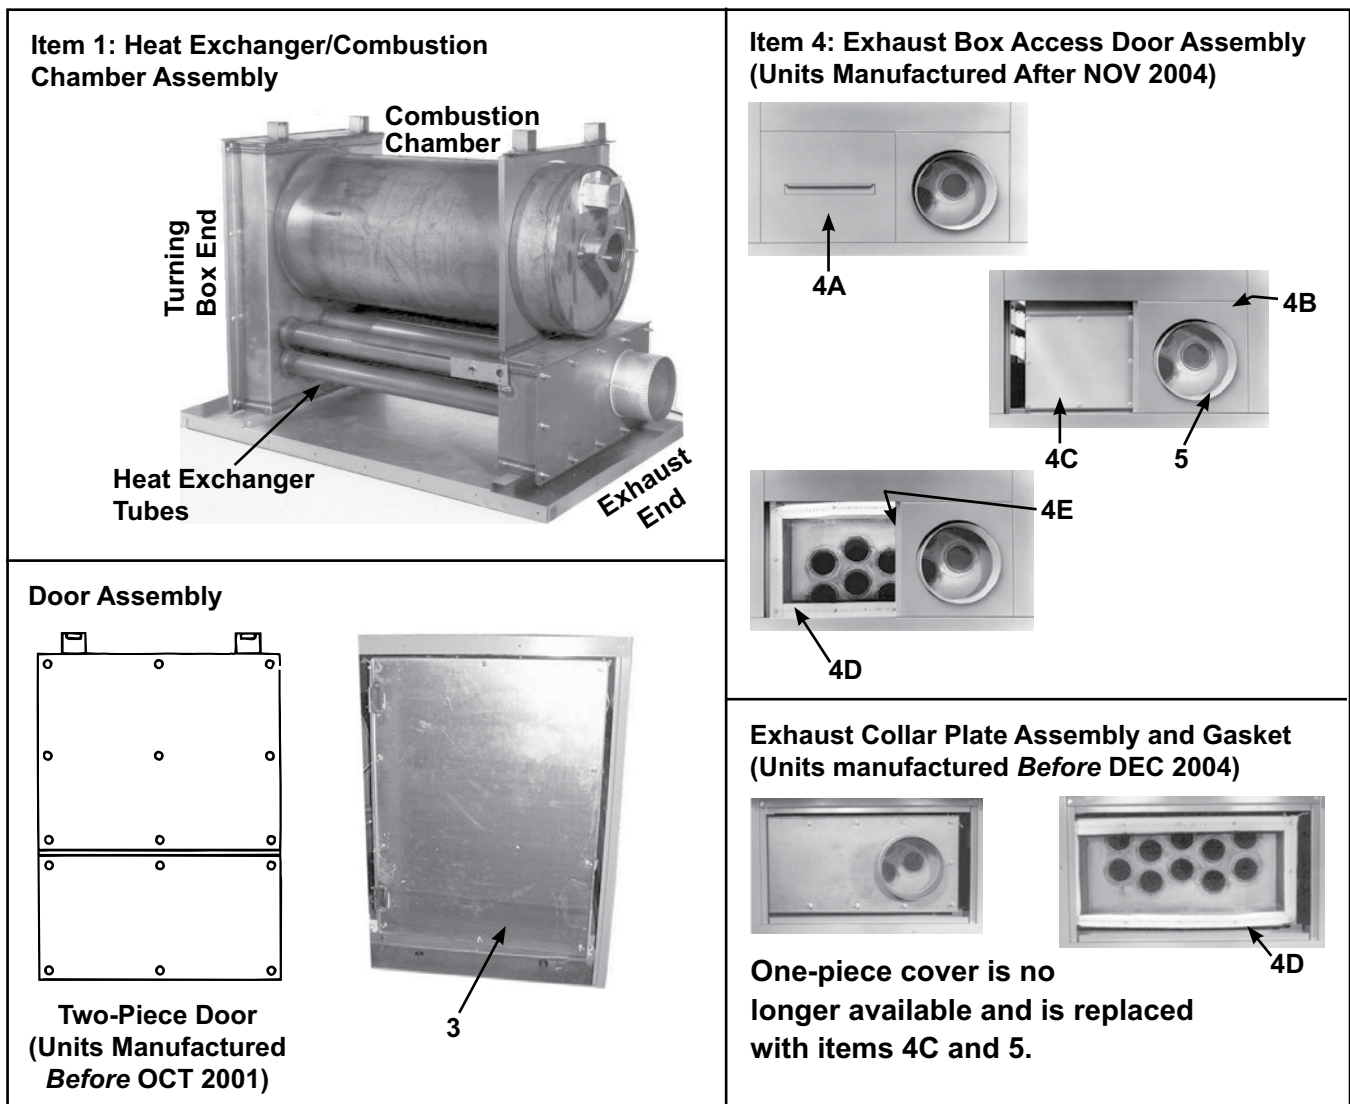

Figure 27. Heat Exchanger/Combustion Chamber and Exhaust Box Assemblies—RA and RAD Models, Unit Size 350 (Refer to Table 19)
- Heat exchanger/combustion chamber assembly and exhaust box components for RA and RAD models—unit size 350—are shown in Figure 27 and listed in Table 19.